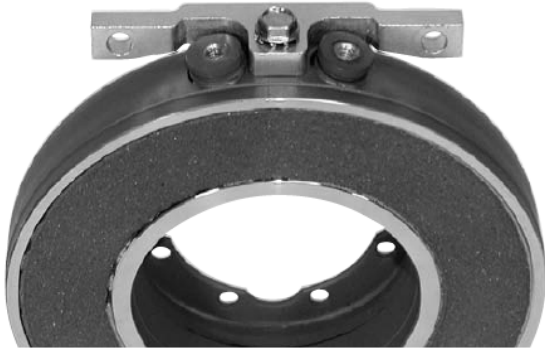

Figure 11
Fasten bracket (1) to clutch field/brake magnet with one No. 10-32 hex washer head screw (2). The screw is self-tapping, threads are not provided in the magnet bracket adapter. The square projection on the magnet fits into the square hole in the bracket. The curved side of the bracket mounts toward the magnet. The bracket flange is toward the flange side of the magnet. (See Figure 11)